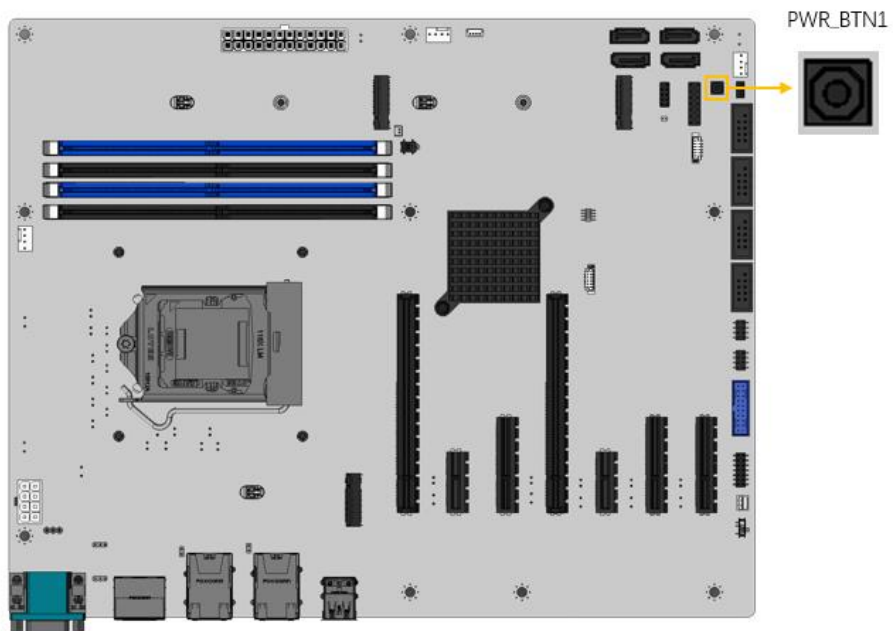

Figure 3-22: Power Button Location
- CN Location:** See Figure 3-22